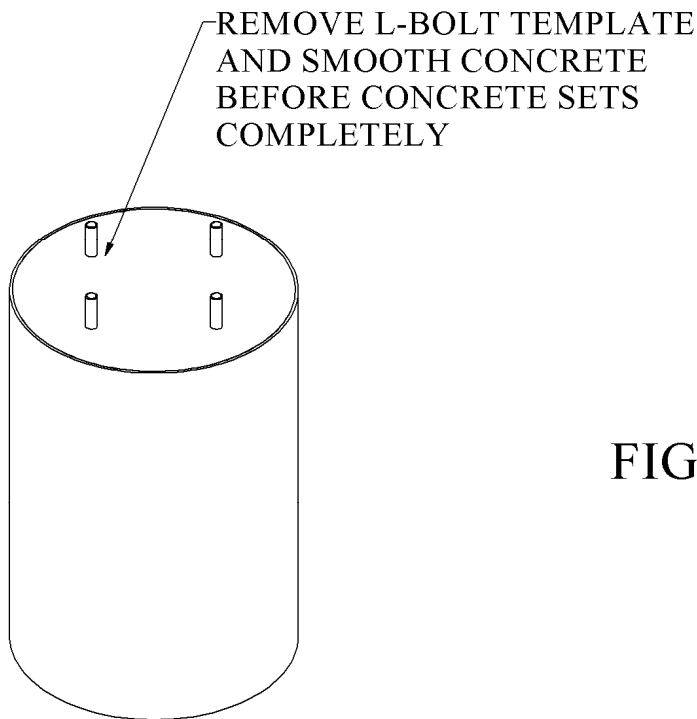

FIGURE 4
7. After the concrete partially sets, remove the four (4) nuts and L-bolt template, (refer to Figure 4), and smooth the surface of the concrete. Clean concrete from the L-bolt threads and remove any ridges that are formed at the base of the bolts where they protrude from the concrete. The Post Assembly Base Plate must rest on a completely flat surface.